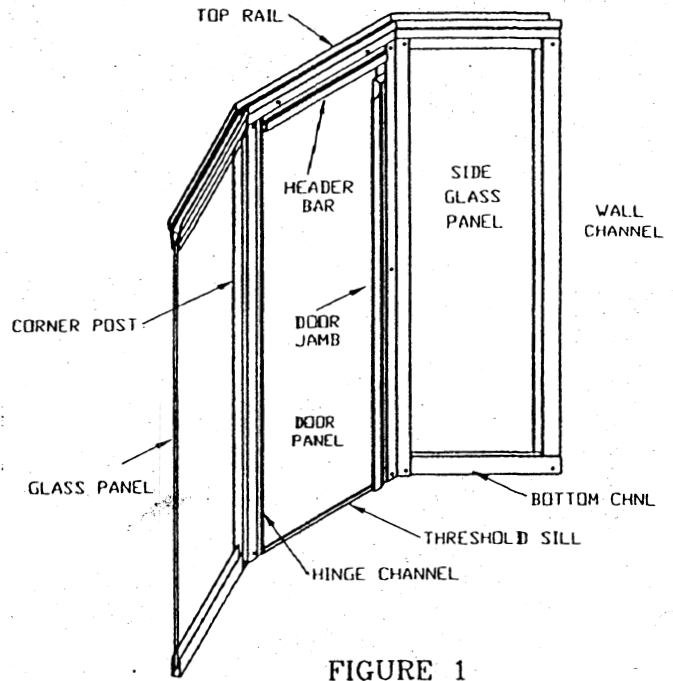
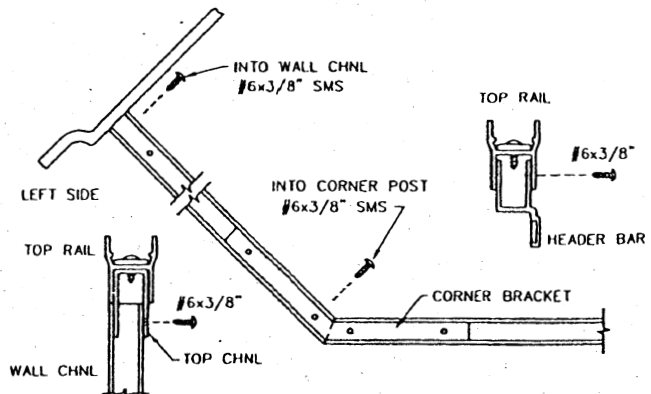

FIGURE 1
FIGURE 3
** SEE Fig 1 FOR PARTS IDENTIFICATION **
Top rail is supplied partly assembled and marked L/R. Complete assembly as shown in figure 3. Note overlap of channels. Place top rail onto side glass panels and gently tap down into position. Top rail channels must rest on top edges of wall channels and corner posts.
Secure top rail to wall channels with #6 x $\frac{3}{8}$ S.M.S. (figure 3) Drill $\frac{7}{64}$ " holes using existing holes in wall channel as a guide. Align the corner posts with apexes in the top rail and secure with #6 x $\frac{3}{8}$ S.M.S. Again, drill $\frac{7}{64}$ " holes using existing hole in corner post as a guide. (figure 3)
With the door closed, verify that the gap between the door panel and door jamb is even from top to bottom. Adjust by shifting the jamb or door panel as required. (Slide header bar into position and adjust for a $\frac{1}{16}$ " (1.5 mm) gap between header and top of door.) From the inside of the unit, drill $\frac{7}{64}$ " (3 mm) holes at top, middle and bottom of door jamb and hinge jamb and secure the jambs with #6 x $\frac{3}{8}$ " pan head sheet metal screws. (figure 1) Repeat for header bar. (figure 3)
Threshold strip must be cut to length. Raised bump goes on the outside with slope angled to inside of unit. Peel release liner and fix in position. (figure 1)